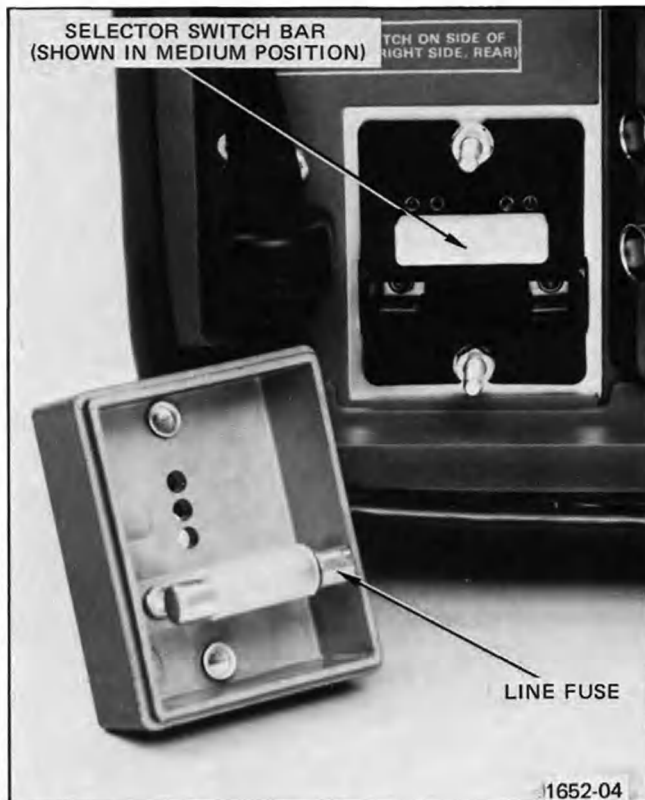

Fig. 2-1. Regulating range selector and line fuse.
3. Pull out the range selector switch bar (see Fig. 2-1). Select a range from Table 2-1 that is centered about the average line voltage. Slide the bar to the desired position and plug it in. Push the cover on and tighten the screws.
**51. LINE FUSE HOLDER** — Contains the line fuse and the regulating range selector. See Fig. 2-1 for change information.
**52. REGULATING RANGE SELECTOR** — Shown in Medium regulating range. See Fig. 2-1 for change information.